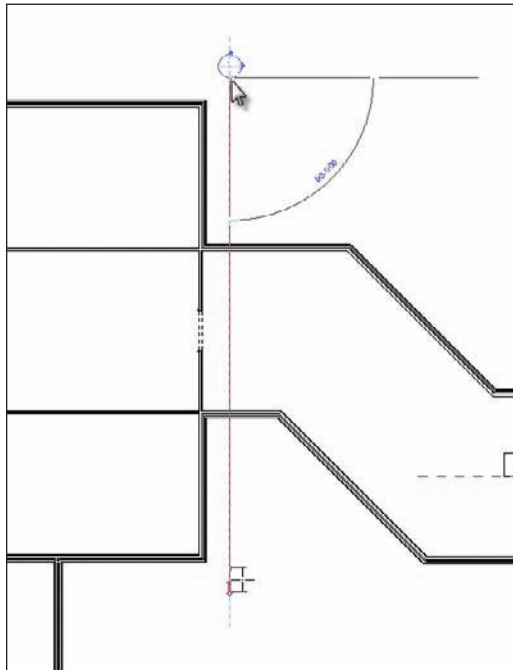

FIGURE 3.32 Placing the section into the model
3. A section takes two picks to place into the model. You must first pick the point for the head; then you must pick a point for the tail. To place the section as shown in Figure 3.32, first pick a point above the corridor and to the right of the vertical wall.
4. After you pick the first point, move your cursor straight down the view. When you are positioned directly below the bottom corridor wall, pick the second point (see Figure 3.32). If the section is facing the wrong way, that's fine. We will fix that in a moment.